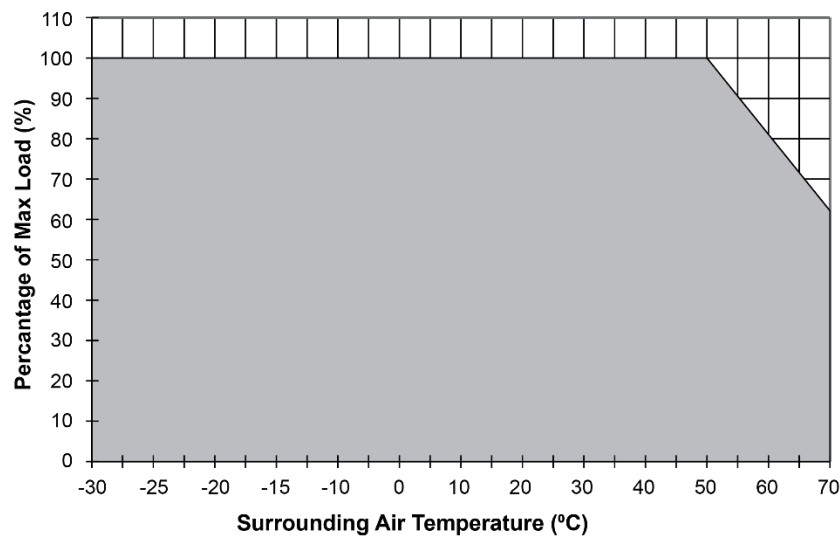
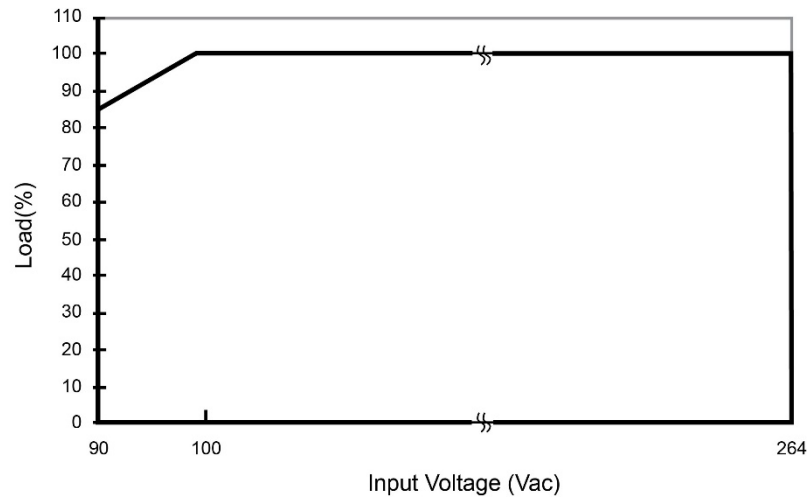

Fig. 1 De-rating for Horizontal Mounting Orientation
Fig. 2 De-rating for AC Input Voltage
1. Power supply components may degrade, or be damaged, when the power supply is continuously used outside the shaded region, refer to the graph shown in Fig. 1. & Fig. 2.